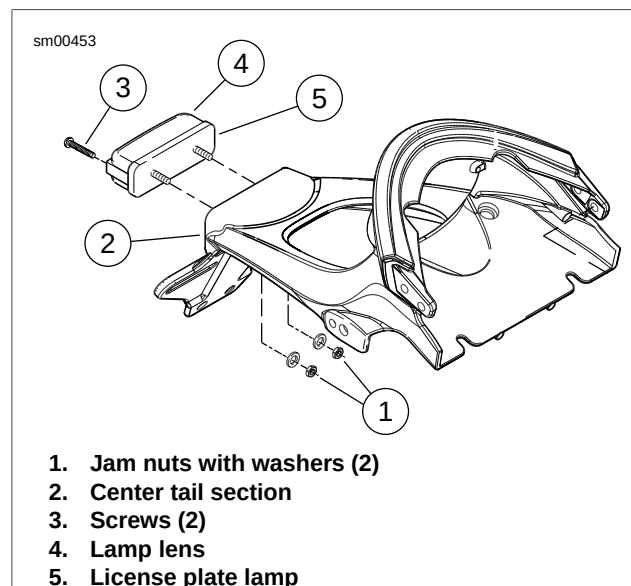

Figure 7-66. License Plate Lamp: Lightning
See Figure 7-66. If replacing bulb only, remove both lamp lens screws (3), remove lamp lens (4) and remove bulb. Replace bulb and install lens and tighten screws.